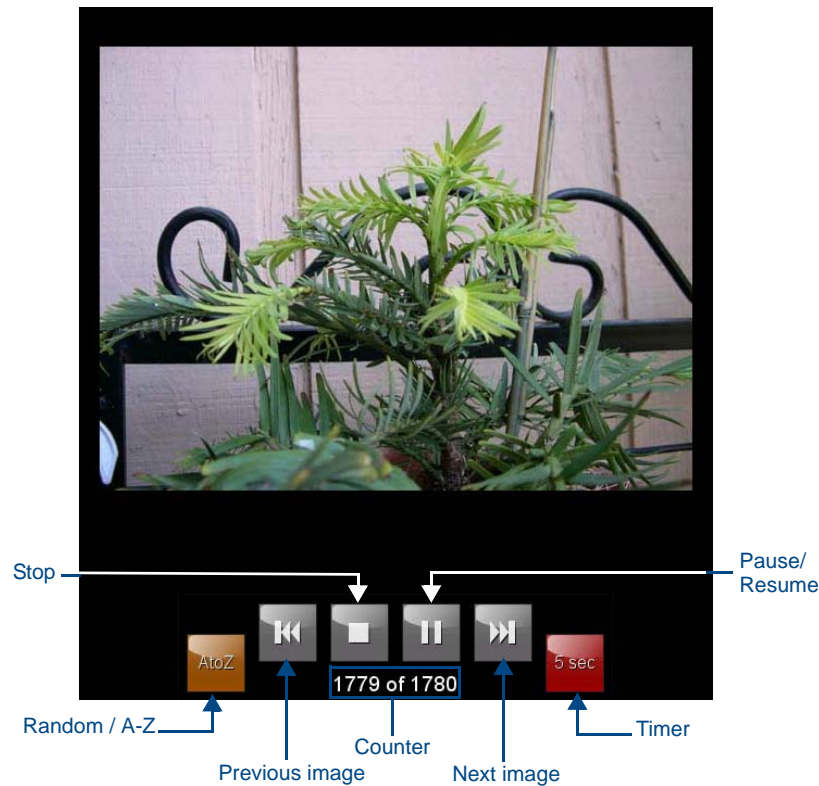

FIG. 4 Picture View configuration popup menu
2. When the images begin to display, touch any place on the touchscreen to open the configuration popup menu (FIG. 4). If no selection is made, this menu will remain in place for 15 seconds and then disappear. It may be accessed again by touching anywhere on the touchscreen.